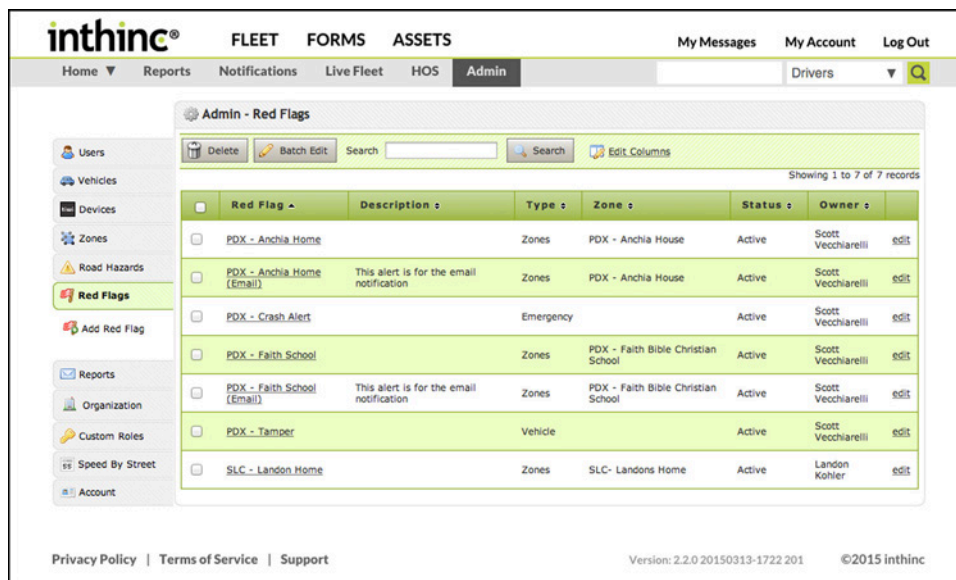

Figure 55 Red Flag Details page displayed
- 3 To view the Red Flag alert details, **click** on the Red Flag alert name. The Red Flag alert details page will display. (Figure 55)